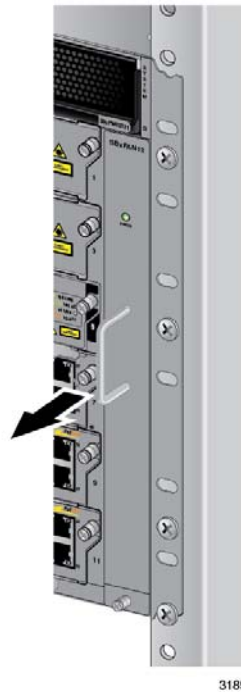

Figure 192. Loosening the AT-SBxFAN12 Fan Module from the Backplane Connector
6. Carefully pull on the handle to disconnect the fan module from the connector on the backplane of the chassis. Refer to Figure 192.